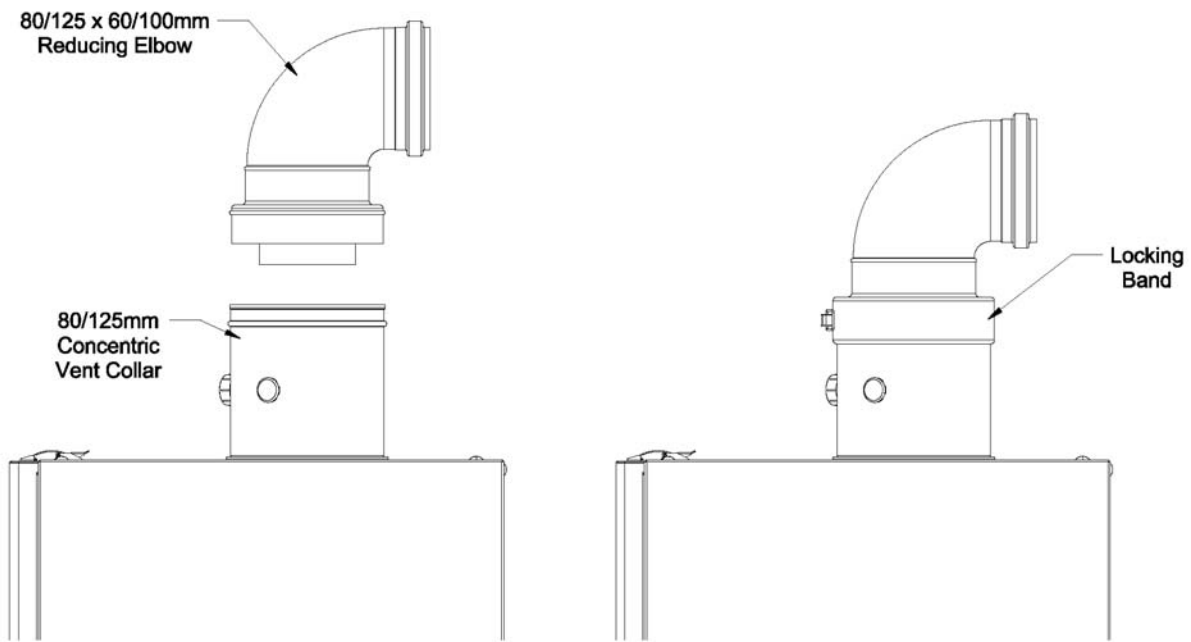

Figure 7.10: Installation of Reducing Elbow on Concentric Boiler Collar
- c) (2) Rubber wall grommets (P/N 101007-01).
- 2) Unless the 80/125 straight riser (P/N 101163-01) is used, start by attaching the reducing elbow to the boiler collar. To do so, remove the clamp from the large end of the reducing elbow and set aside. Apply a small amount of water to the brown gasket on the boiler collar. Push the elbow onto the boiler collar until the bead on the elbow contacts the top edge of the collar (Figure 7.10).
- 3) Reinstall the clamp removed in Step (2) so that the elbow is secured to the boiler collar.